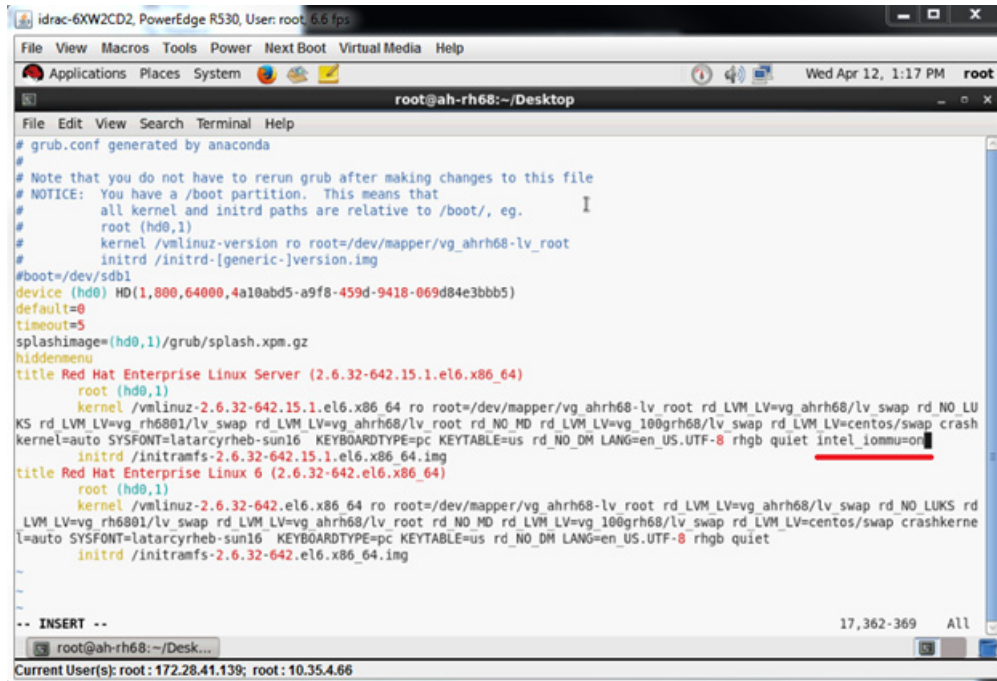

Figure 8-10. Editing the grub.conf File for SR-IOV
- a. Open the `grub.conf` file and configure the `iommu` parameter as shown in Figure 8-10. (For details, see “Enabling IOMMU for SR-IOV in UEFI-based Linux OS Installations” on page 111.)